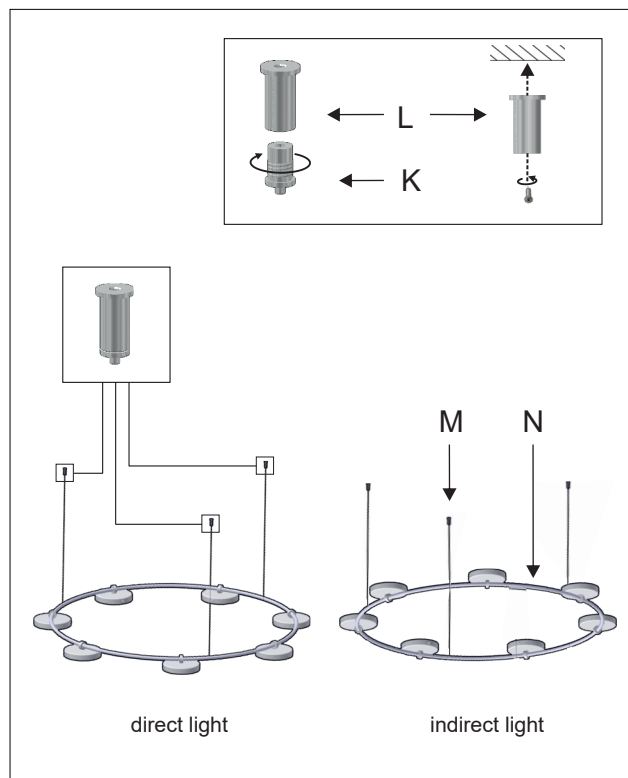

Figure 3
3 - Unscrew the three grip supports (K) from their associated tensors (L) and screw them into the ceiling. Installer must use supporting means that are suitable for the type of ceiling the unit will be installed on. Fasteners used in the canopy must be able to hold the weight indicated for the unit at the top of this document. We suggest that the position of the cable grippers are previously marked taking into account the position of the steel cables (M) and the size of the rim (N). The orientation of the lampshades (direct or indirect light) does not affect the mounting system. Figure 3